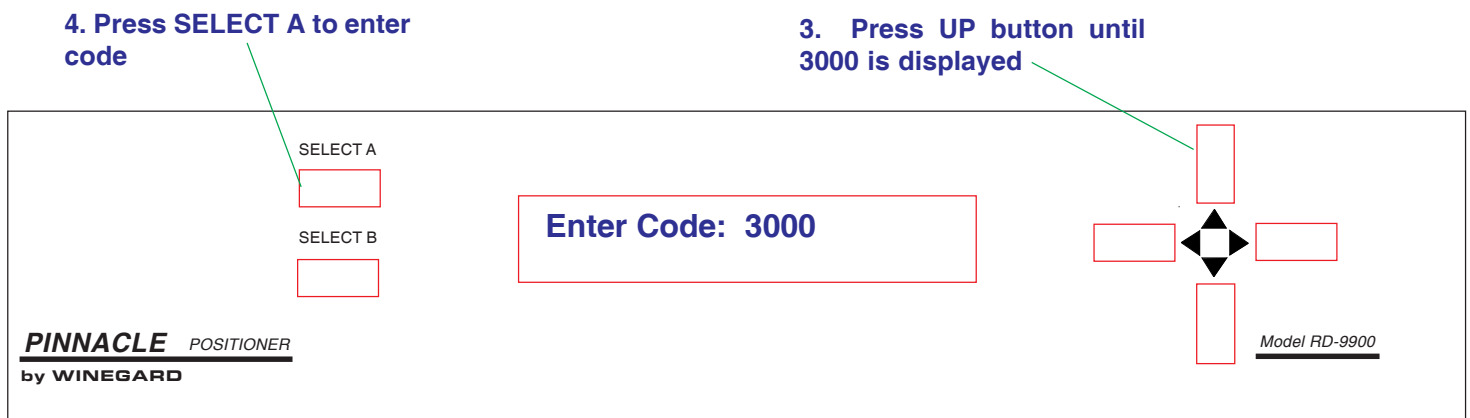

Figure 22
4. Press **[UP]** arrow button until 3000 is displayed. See Figure 22.
5. Press **[SELECT A]** to enter code. See Figure 22.